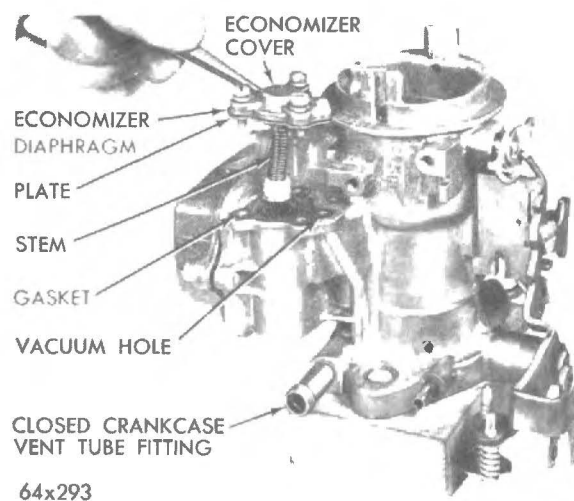

Fig. 12 - Removing or installing economizer.
(3) Using a 5/8" wrench, remove the fuel inlet needle valve and seat.
(4) Remove the economizer retaining screws then lift economizer cover, diaphragm and stem out of the carburettor, as shown in Fig. 12.
(13) Slide the economizer diaphragm and stem assembly into position, making sure the vacuum holes are aligned. Install cover and retaining screws. Raise diaphragm stem approximately half its travel to relieve diaphragm tension. Tighten screws evenly (Fig. 12).